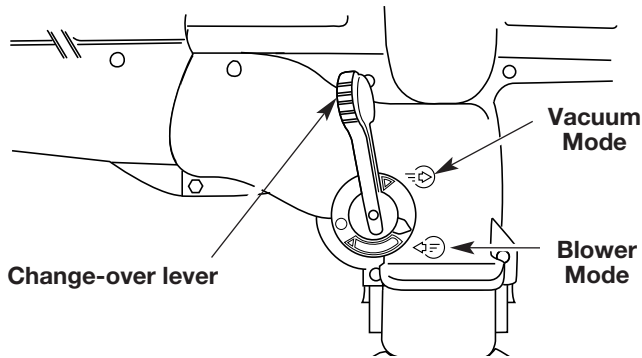

Fig. 14
2. Set the blower/vacuum mode change-over lever to the up position (Blower Mode) (Fig. 14).